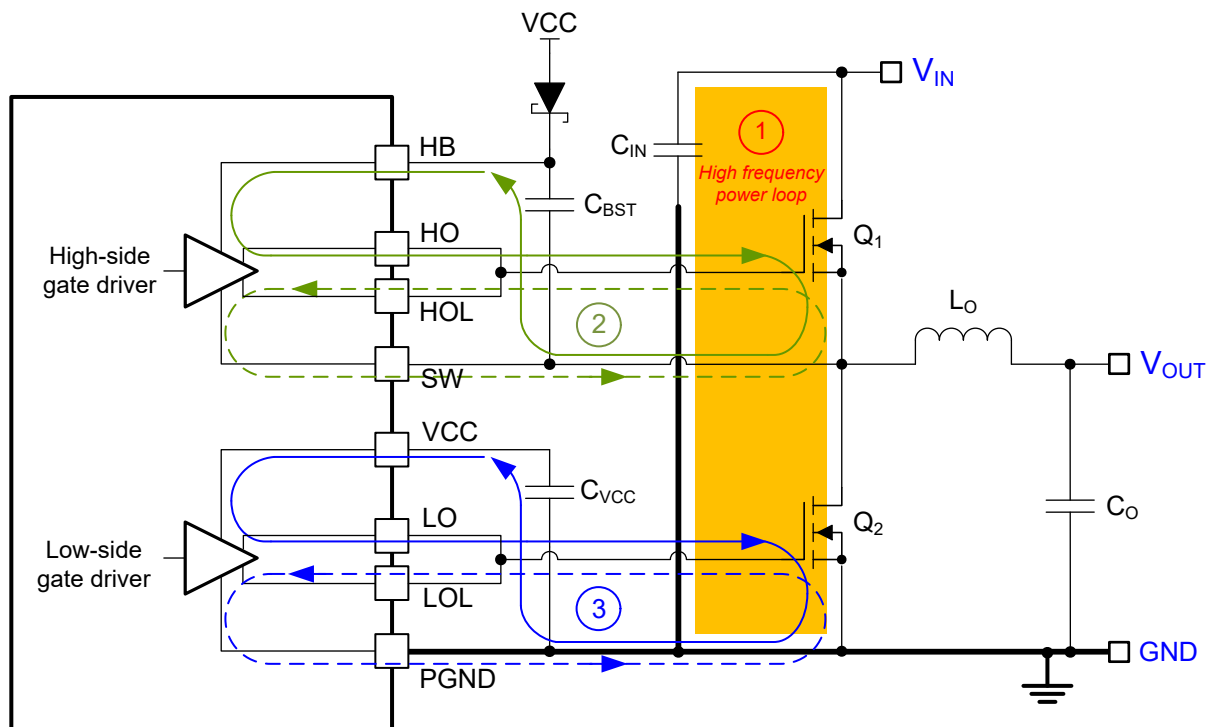

Figure 12-1. DC/DC Regulator Ground System With Power Stage and Gate Drive Circuit Switching Loops
Proper PCB design and layout is important in a high-current, fast-switching circuits (with high current and voltage slew rates) to achieve a robust and reliable design. As expected, certain issues must be considered before designing a PCB layout using the LM5143. The high-frequency power loop of a buck regulator power stage is denoted by loop 1 in the shaded area of Figure 12-1. The topological architecture of a buck regulator means that particularly high di/dt current flows in the components of loop 1, and it becomes mandatory to reduce the parasitic inductance of this loop by minimizing its effective loop area. Also important are the gate drive loops of the low-side and high-side MOSFETs, denoted by 2 and 3, respectively, in Figure 12-1.
- Loop 1: The most important loop area to minimize is the path from the input capacitor or capacitors through the high-side and low-side MOSFETs, and back to the capacitor or capacitors through the ground connection. Connect the input capacitor or capacitors negative terminal close to the source of the low-side MOSFET (at ground). Similarly, connect the input capacitor or capacitors positive terminal close to the drain of the high-side MOSFET (at VIN). Refer to loop 1 in Figure 12-1.
- The SW pin connects to the switch node of the power conversion stage and acts as the return path for the high-side gate driver. The parasitic inductance inherent to loop 1 in Figure 12-1 and the output capacitance (C_{OSS}) of both power MOSFETs form a resonant circuit that induces high frequency (greater than 50 MHz) ringing at the SW node. The voltage peak of this ringing, if not controlled, can be significantly higher than the input voltage. Make sure that the peak ringing amplitude does not exceed the absolute maximum rating limit for the SW pin. In many cases, a series resistor and capacitor snubber network connected from the SW node to GND damps the ringing and decreases the peak amplitude. Provide provisions for snubber network components in the PCB layout. If testing reveals that the ringing amplitude at the SW pin is excessive, then include snubber components as needed.
- Loop 2: high-side MOSFET, Q_1 . During the high-side MOSFET turn-on, high current flows from the bootstrap (boot) capacitor through the gate driver and high-side MOSFET, and back to the negative terminal of the boot capacitor through the SW connection. Conversely, to turn off the high-side MOSFET, high current flows from the gate of the high-side MOSFET through the gate driver and SW, and back to the source of the high-side MOSFET through the SW trace. Refer to loop 2 of Figure 12-1.
- Loop 3: low-side MOSFET, Q_2 . During the low-side MOSFET turn-on, high current flows from the VCC decoupling capacitor through the gate driver and low-side MOSFET, and back to the negative terminal of the capacitor through ground. Conversely, to turn off the low-side MOSFET, high current flows from the gate of the low-side MOSFET through the gate driver and GND, and back to the source of the low-side MOSFET through ground. Refer to loop 3 of Figure 12-1.